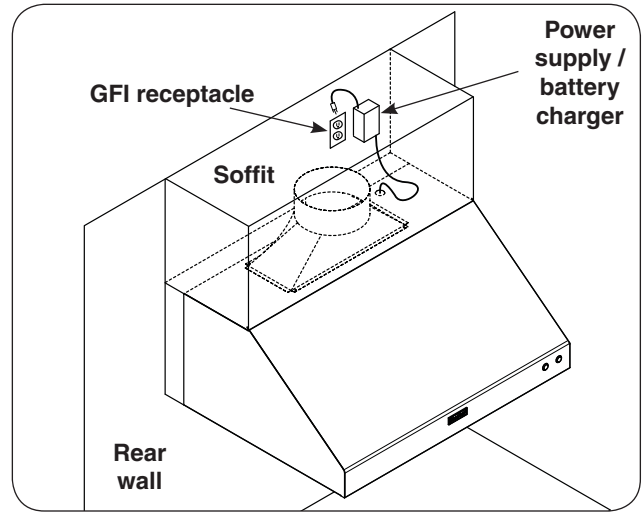

Fig. 12-1
3. Run the power supply / battery charger cord down into the vent hood, through the hole found in the vent hood top panel. See Fig. 12-1. (Do Not plug power supply / battery charger into GFI receptacle yet.)